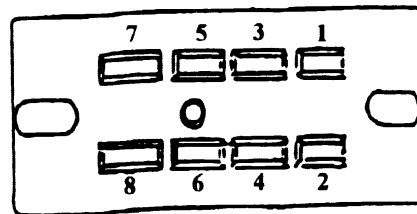

Figure 3
2. Remove the terminal from location 3 of the changer socket (See figure 3 above) using the removal instructions on page 3.
4. Remove the terminal from location 7 of the changer socket (See figure 3 above) using the removal instructions on page 3.
6. Insert wire #3 of the conversion harness in changer socket location 3. (See figure 3, page D1.)
7. Insert wire #4 of the conversion harness in changer socket location 4. (See figure 3, page D1.)
8. Insert wire #7 of the conversion harness in changer socket location 7. (See figure 3, page D1.)
9. Insert wire #8 of the conversion harness in changer socket location 8. (See figure 3, page D1.)